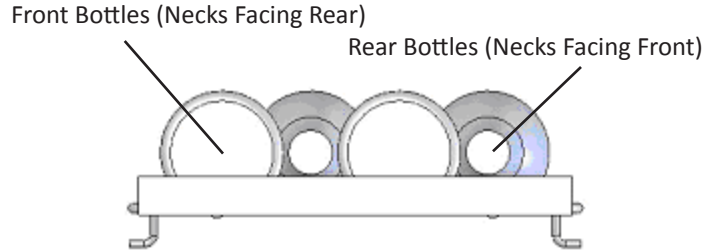
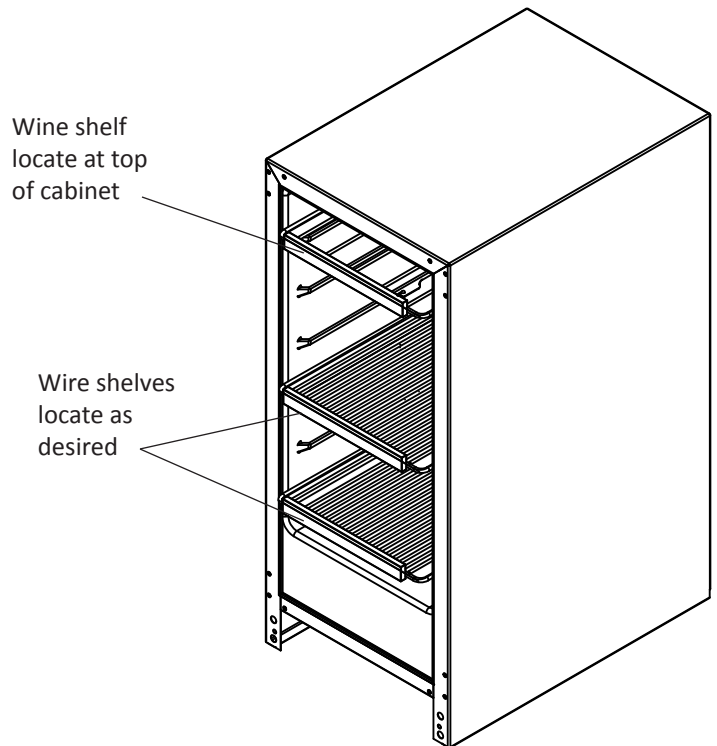

Figure 14
Figure 15
The wine rack pull-out shelf holds four (4) bottles. See Figure 14 for typical wine bottle orientation. The wine rack should be located at the top part of the interior cabinet. Place the remaining shelves as desired (see Figure 15).